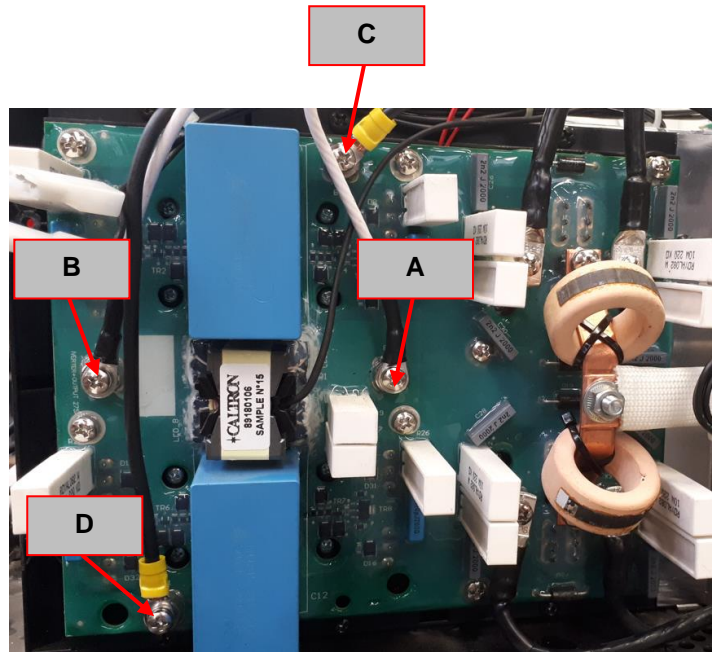

Figure 4 – Inverter Board location and Test Points
3. Locate the Inverter board. See **Figure 4**.
5. Using the PH02 screwdriver disconnect the cables (A), (B), (C) and (D) and mark them
6. Using the multimeter in diode test mode perform the tests detailed in **Test Table 3**. See **Figure 4** for Test Point locations.